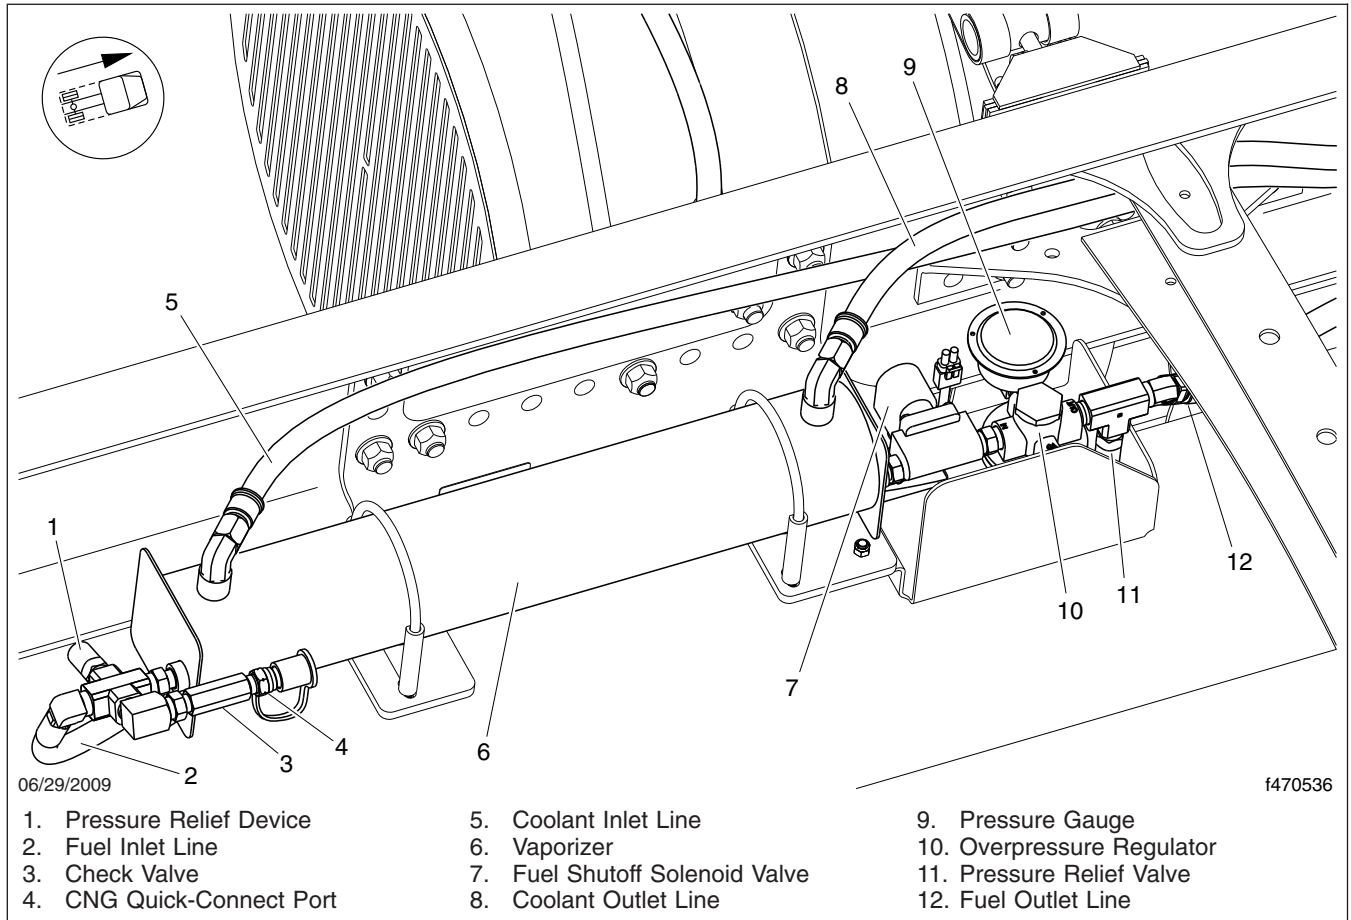

Fig. 11.10, LNG Vaporizer Assembly
8. Inspect the LNG vaporizer for signs of damage or leaks. See **Fig. 11.10**. Inspect the vaporizer mounting brackets for signs of looseness.